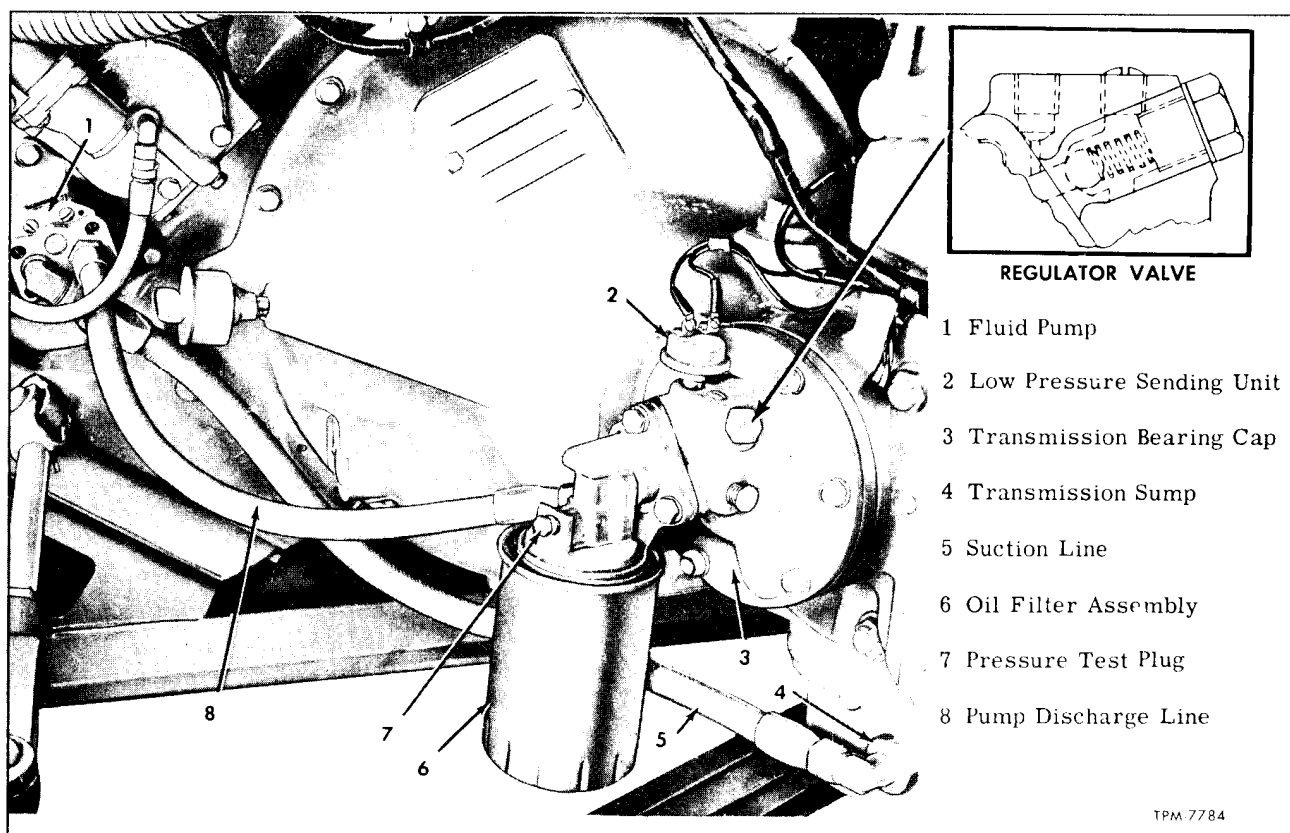

Figure 3—Transmission, Filter, Pump, and Lines
mounted on engine and connected to transmission by flexible lines (fig. 3).
Drive gear (15) is supported at transmission case by roller bearing assembly (12). Bearing is held in place by retainer (10) which is bolted to transmission case. Seal prevents leakage between retainer and clutch housing (82). Tapered roller bearings are used at outer end of drive gear. Outer bearings are adjustable, and shims (4) are used to provide proper contact between bevel pinion gear and bevel drive gear (83) keyed to shaft which is integral with drive gear (15). Oil tube (88) carries oil supplied by pump (fig. 3) to lubrication passage in drive gear. Passage is shown by dotted lines. Bearing cap assembly (1) incorporates a lubrication pressure relief valve and is machined for mounting lubricating oil filter assembly.
LUBRICATION SYSTEM (Fig. 3)
Lubricant which lubricates transmission is contained in oil reservoir bolted on bottom of transmission case. The pump (fig. 3), is mounted on and driven by the engine. Oil from reservoir is drawn to pump through suction line, and is discharged through line to oil filter assembly on transmission. Located in bearing cap (3, fig. 3) is a spring-loaded pressure regulator valve which maintains pressure at switch (2, fig. 3) at low engine speed. Lubricant is directed through oil passage to lubricate bearings and gears. Lubricant drains through screen (71, fig. 12) into reservoir.
A switch (2, fig. 3) mounted on transmission lights a tell-tale on instrument panel to warn driver in case transmission oil pressure drops below safe operating pressure (1-1/2 to 2-1/2 psi).
Key numbers in text refer to figure 3.
To check pump pressure, remove test plug (7, fig. 3) and connect pressure gauge. Start engine and operate at 2000 rpm. Note gauge reading which should be 20 to 60 psi if oil is cold, or 10 to 20 psi if oil is warm.
PUMP REMOVAL (Fig. 3)